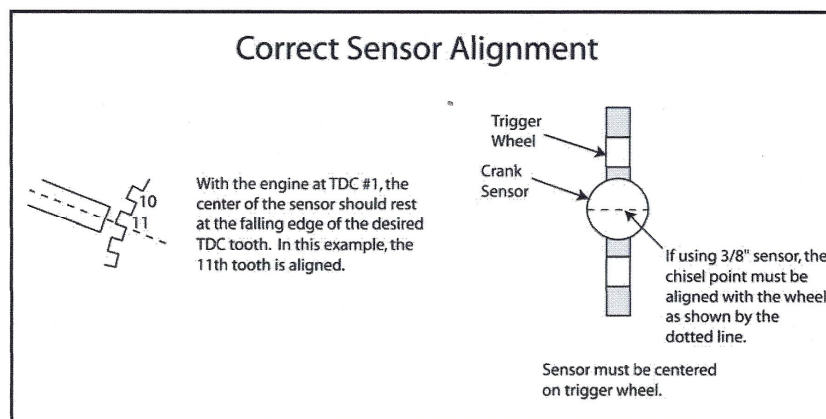

Figure 33: Correct Sensor Alignment
- l. Remove the dowel/pop rivet assembly from the pick-up holder and install the magnetic pick-up. Using a feeler gauge or equivalent, set the gap to 0.024 inches. Once the gap between the timing teeth and the magnetic pick-up is set, apply a thin coating of Loctite #242 to the set-screws, insert them into the pick-up holder, and tighten them down. Remove the feeler gauge. **NOTE:** The tip of the sensor is a “Chisel Point”; this chisel must be positioned so that it is perpendicular to the plane of the trigger, or so that the chisel is parallel to the line of flight. See Figure 33.